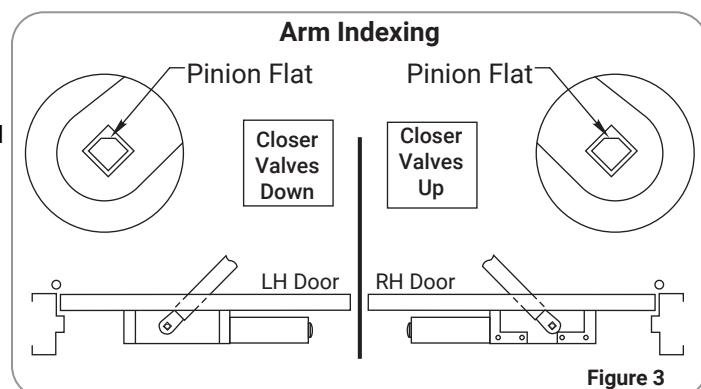

Figure 3
- four (4) on door for closer or drop plate
- four (4) on frame soffit for track assembly
6. Place slide arm on pinion shaft using Arm Indexing instructions. (Figure 3)